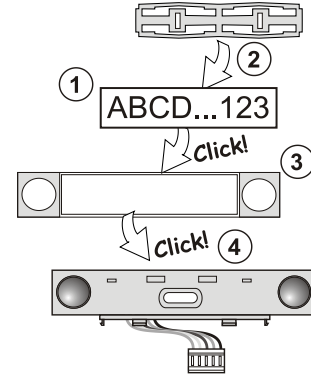

Figure 3: Inserting a label into a control segment
6. Connect the BUS cable to the BUS terminals (10).
- a. When the device is switched on, the yellow backlit activation button (3) starts flashing repeatedly to indicate that the module has not been enrolled into the system.
- c. Press the backlit activation button (3) above the screen – the module is thus enrolled and the yellow LED indicator goes off.
9. When you have completed the installation, insert descriptive labels onto the segment transparent covers and close them, see figure 3. Label printing is a part of the F-Link software (**Devices** window, at the module position – **Internal settings**).